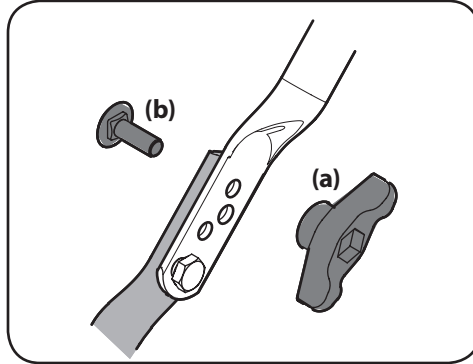

Figure 2-5
4. On models with adjustable handles, place the handle in the desired position and then install wing knobs (a) and carriage bolts (b) in the appropriate hole and secure the handle. See Figure 2-5.